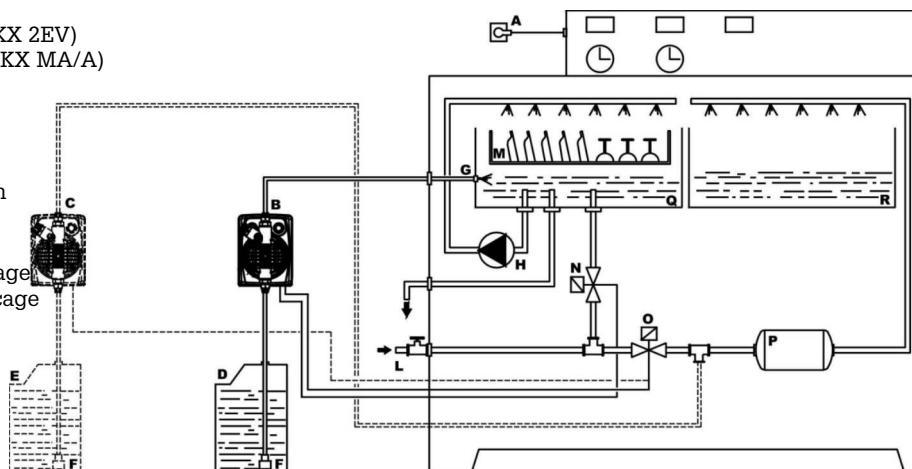

Fig. 13
5.4 - INSTALLATION TYPE D'UN LAVE-VAISSELLE A TUNNEL AVEC DEUX ELECTROVANNES (Fig. 13)